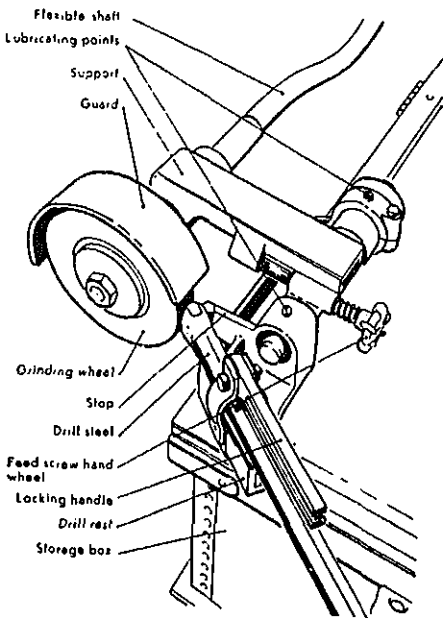

Fig. 1
In order to obtain optimum working life of the drill steel it is important to regrind the tungsten carbide bit when the width of the cutting edge of the insert amounts to 2 mm (0.08 in.), measured 3 mm (0.12 in.) from the periphery of the insert, as shown in Fig. 1; the corner abrasion amounts to 7 mm (0.28 in.), measured from the highest point of the bit. Excessive corner abrasion — anti-taper — will subject the bit to wedge action against the walls of the hole.
Check the width of the cutting edge and the corner abrasion with the grinding template, 795 1327, supplied with the motor drill. Figs. 1 and 2 show the correct method of measuring. Do not grind down the tungsten-carbide bit too much — it should last for many regrindings.
with oil at the two points shown in Fig. 1. In addition, the ball bearing at the drill connecting end of the flexible shaft should be inspected and greased at regular intervals. The bearings of the grinding spindle and the space between the flexible shaft and the outer casing should be filled with grease when the grinder is dismantled for overhaul.
Measure the chuck wear with the gauge supplied with the machine. See Fig. 1. Place the gauge between two flats of the hexagon (1). If it enters partially (2), the tool chuck can still be used. If it goes in completely (3), the chuck should be renewed. The motor-drill should be overhauled at the same time. Difficult working conditions and particularly neglect of the air filter may, however, have an adverse effect on the operating condition of the machine so that minor overhauling or major overhauling may be necessary before the tool chuck is worn out.
Fig. 1. The gauge is placed in the tool chuck between two flats of the hexagon (1). If it enters partially (2), the chuck can still be used. If it goes in completely (3), the chuck should be renewed.